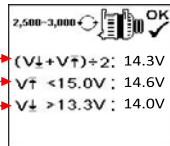
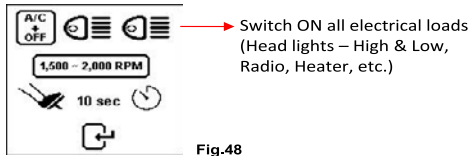

Fig.45
Fig.48
6. While still holding around 3,000 RPM, the timer will start to countdown from 10s to 0s. As soon as it reaches 0s, the results will automatically display as example shown below (Fig.45).
Continue from the previous test (either Fig.45, 46 or 47); the Analyser will automatically proceed to Load test at 1,500 to 2,000 rpm as shown in Fig.48 below.